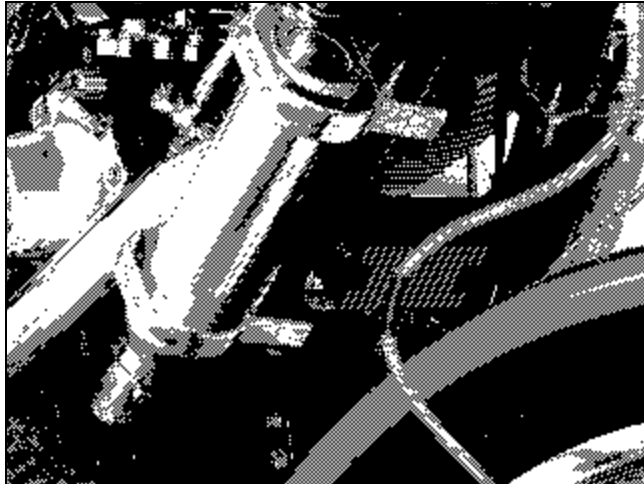

Figure 2
2. Install frame bracket to forward frame as seen in figure 2.